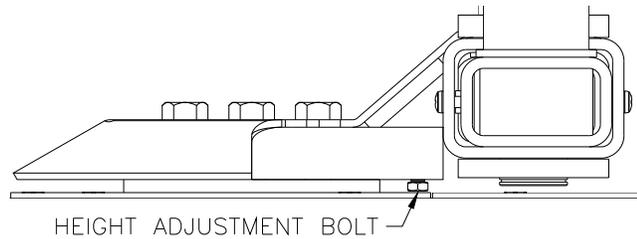

Fig. 10
27. With the lift lowered, arms extended fully and foot pad in the lowest position, check clearance of the foot pad screw to ensure it does not make contact with the floor. Use the height adjustment bolt (see figure 10) to either raise or lower the bolster as necessary. If there is more than 3/8" of clearance on both screws with the bolt fully seated against the bottom of the bolster remove the bolt.